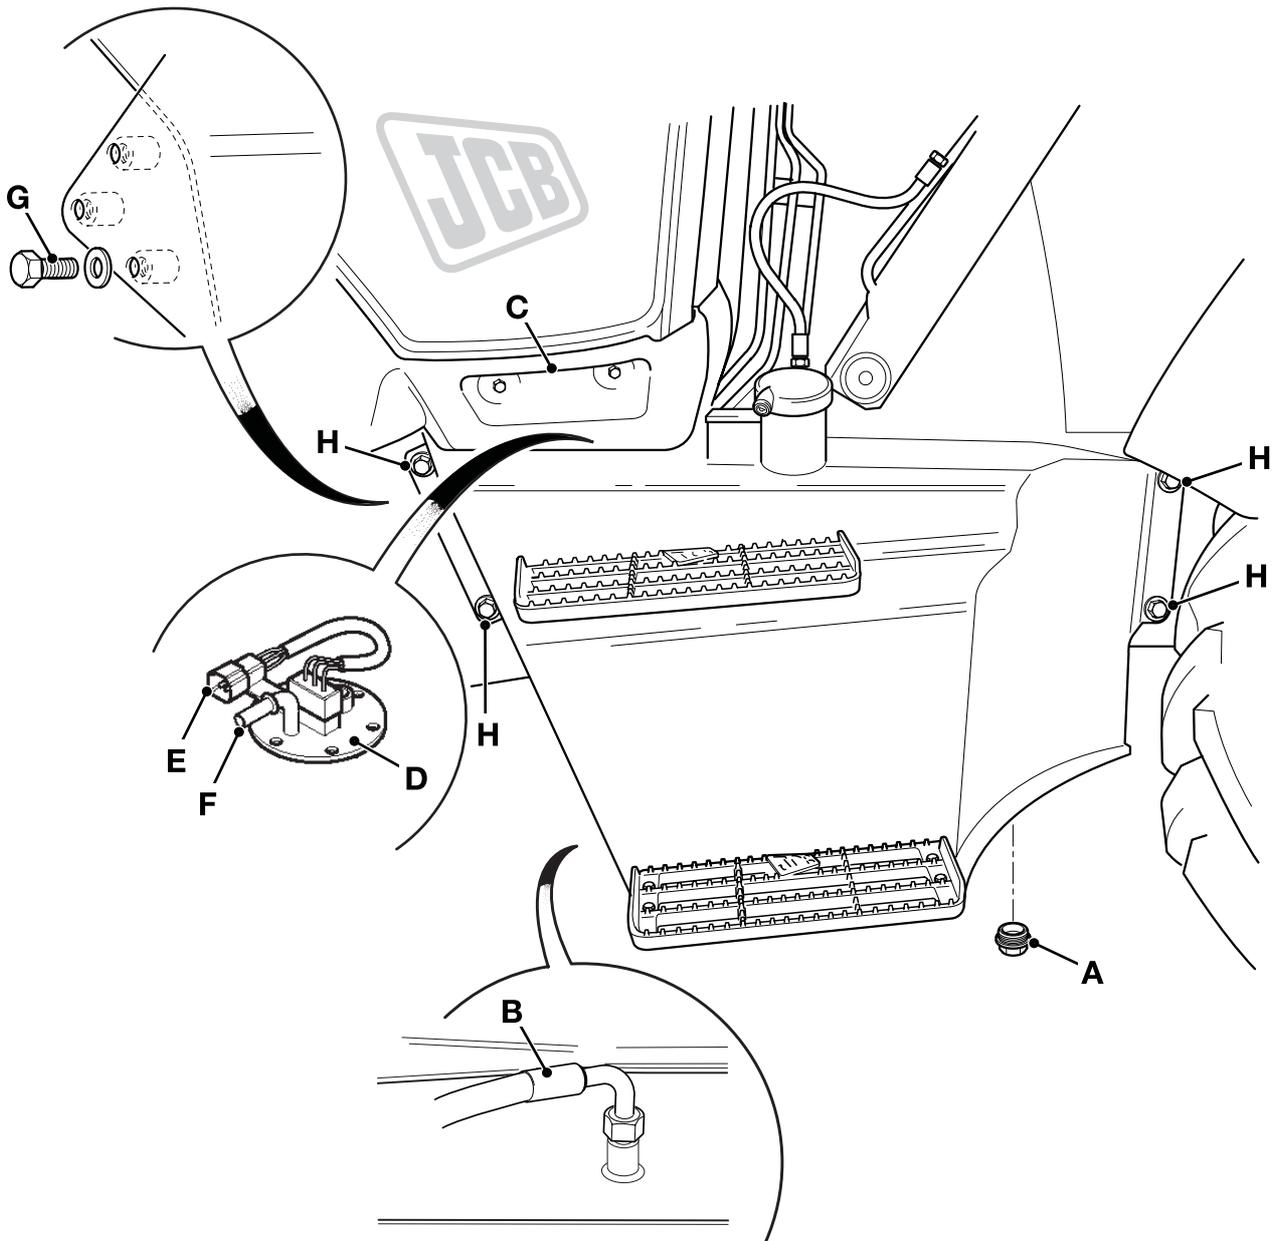

Fig 8. Fuel Tank
- 2 → Fig 8. \(□ B-84\). Working underneath the RH side of the machine, carefully remove the drain plug **A** and drain the fuel tank contents into a suitable clean container. When empty disconnect suction hose **B**.